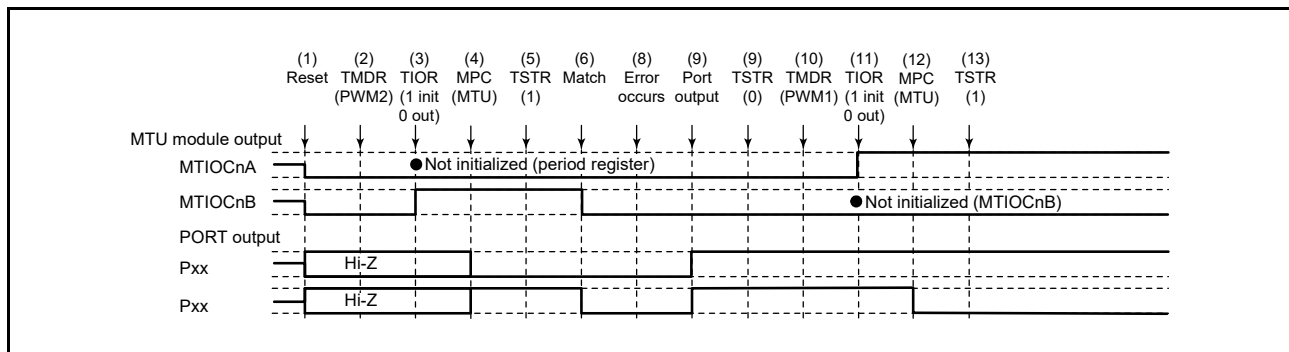

**Figure 24.166 Error Occurrence in PWM Mode 2, Recovery in Normal Mode**
Figure 24.166 shows a case in which an error occurs in PWM mode 2 and operation is restarted in normal mode after re-setting.
(1) to (9) are the same as in Figure 24.166.
(10) Set PWM mode 1.
(11) Initialize the pins with the TIOR register. (In PWM mode 1, waveforms are not output to the MTIOcNB (MTIOcND) pins. To output a specified level, make necessary settings for general output ports in the port direction registers (PDR) and port output data registers (PODR) of the I/O ports.)
(10) This step is not necessary when restarting in PWM mode 2.
(10) Set the phase counting mode.